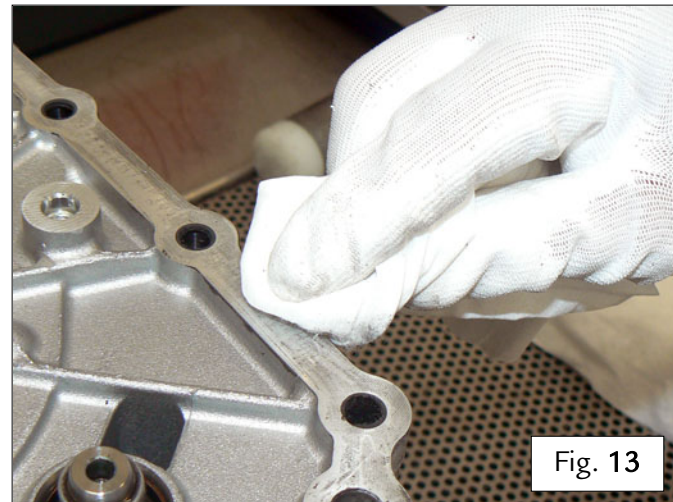

Fig. 13
- Using a lint-free cloth and heptane, remove all traces of adhesive and/or dirt from the surface and holes of the differential housing – Fig. 13.